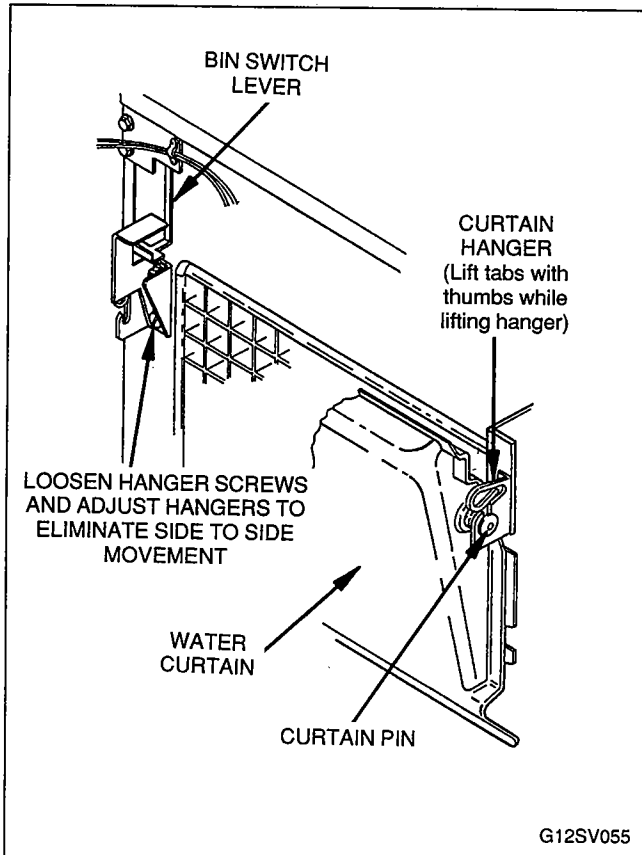

FIGURE 55. WATER CURTAIN CHECK
1. Pull bottom of water curtain (Figure 55) away from evaporator, then release. Curtain should fall back to evaporator.